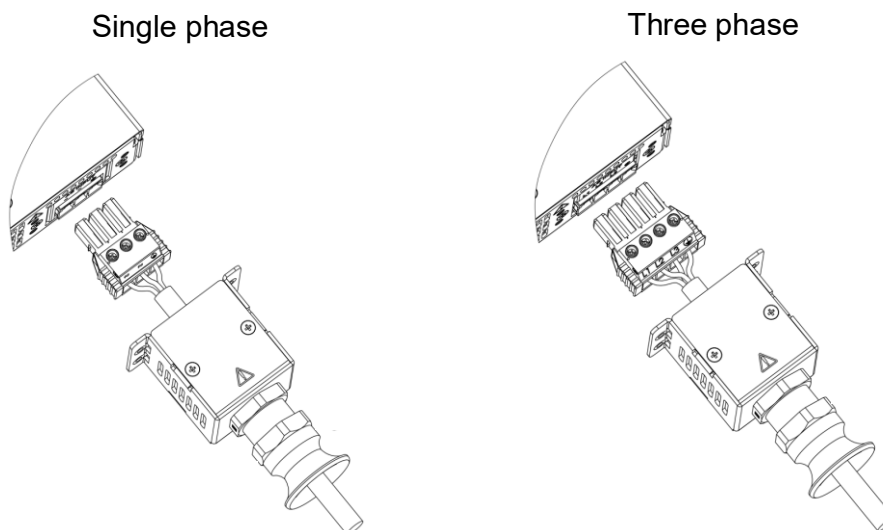

Figure 7-7: AC Wires fixed to the AC Connector
7. Insert the AC wires into the AC input connector as shown in **Figure 7-7**.